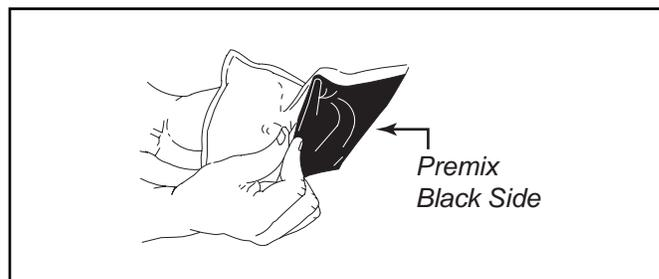

Figure 20
- b. Firmly grasp opposite flat sides of closed mixing pouch near the center barrier; at the same time, pull sides of barrier apart and roll sides of thumbs through it. Separate barrier all of the way across to the side seals. (Figure 20.)